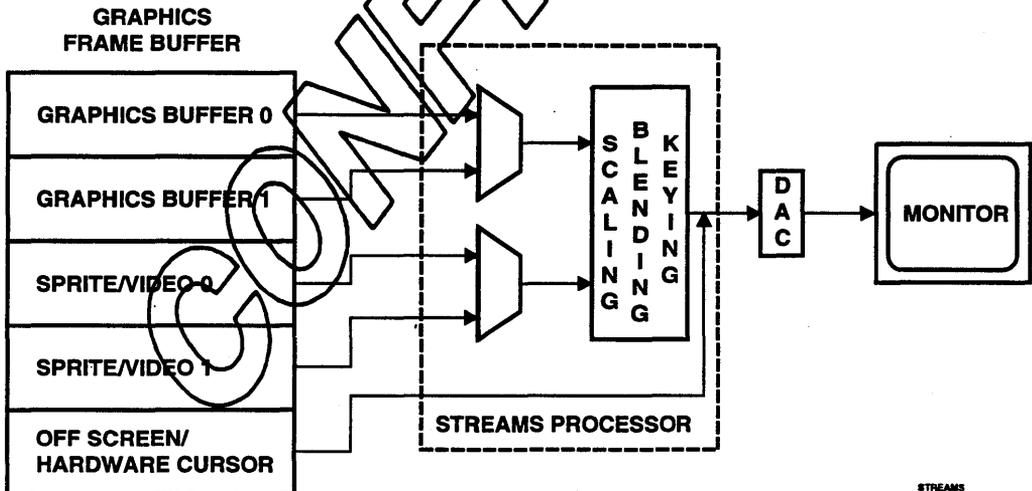

Figure 10-1. Streams Processor
The S3 Streams Processor processes data from the graphics frame buffer, composes it and outputs the result to the internal DACs for generation of the analog RGB outputs to the monitor. The general data flow is shown in Figure 10-1. Note that the DAC shown in this figure is inside ViRGE.
The processor can compose data from up to 3 independent streams as shown in Figure 10-1:
- RGB-8 (Although not shown in Figure 10-1, the frame buffer data is first passed through the internal RAMDAC's color lookup table (CLUT), where it is palettized before being passed to the Streams Processor.
For each stream to be used, the starting location (offset) in the frame buffer and the stride (byte offset between vertically adjacent pixels on the screen) must be specified. Both the primary and the secondary streams can be double buffered as depicted in Figure 10-1. This means that duplicate frame buffer storage can be provided for both the primary and secondary image (or for either one of them). With double buffering, the programmer can rapidly switch from one primary or secondary image to the other. In addition, having two images allows more time for updating one image while the other is being displayed. Defining the frame buffer organization and implementing double buffering are done via the register fields described in Table 10-1. LPB stands for Local Peripheral Bus.